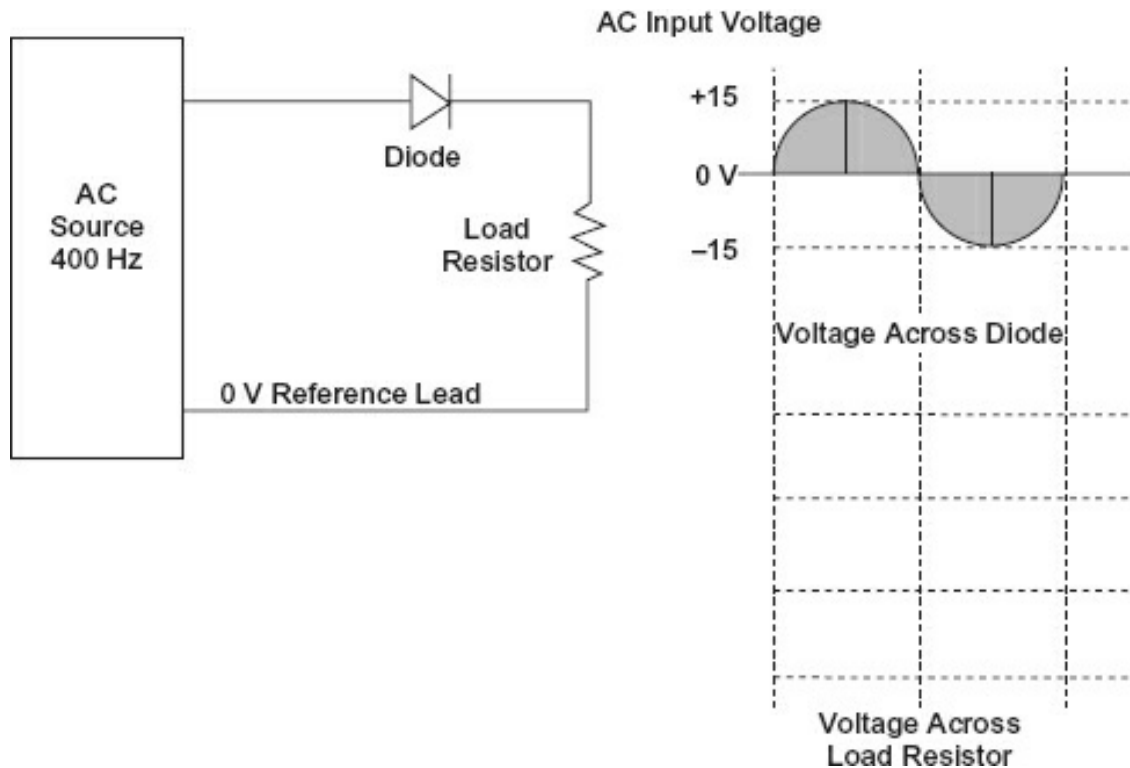

Figure R5-1.
1. Using Figure R5-1, draw the waveforms that will be present across the resistor diode. Label each waveform with the voltage level.